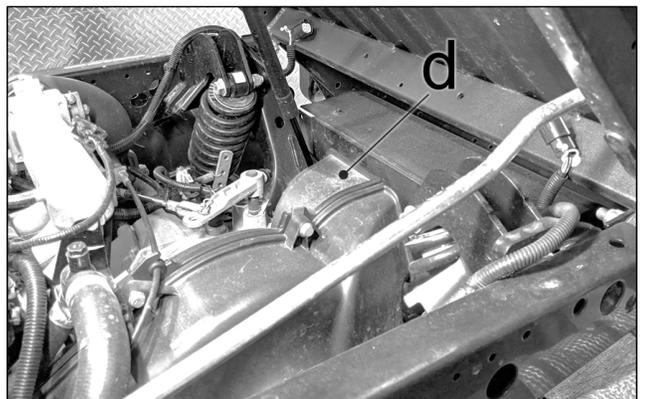

Figure 4
- 2.1 Locate CVT air flow exit (d) on the rear left side of the vehicle. See Figure 4.